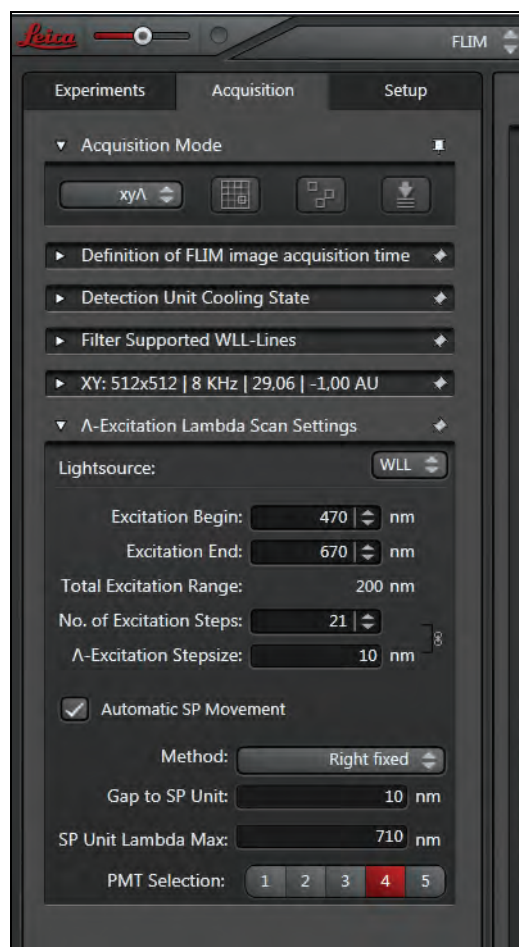

Figure 146: Defining $xy\Lambda$ FLIM stacks
- Open the **Acquisition** tab. If you want to use a spectral internal FLIM detector, select it in the **PMT Selection** field (Figure 146). If you remove the check next to **Automatic SP Movement**, you can manually select the external detector manually with white light or MP laser excitation in **Beam Path Settings**.
9. Define the stack in the Λ stack dialog as follows (Figure 146):